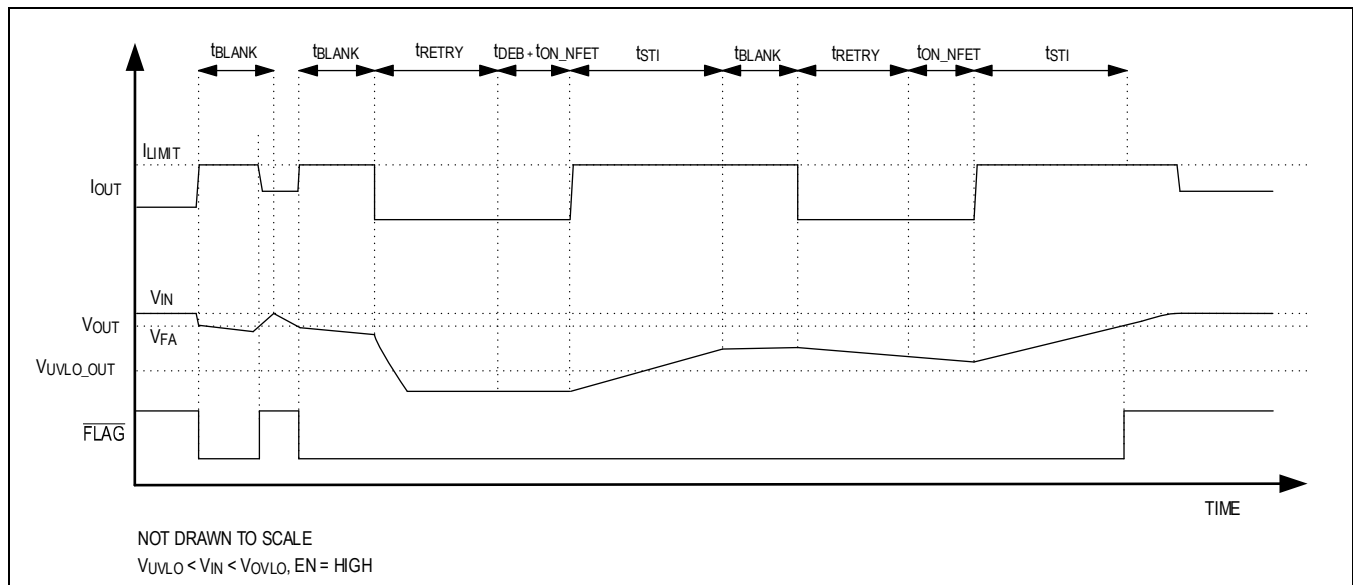
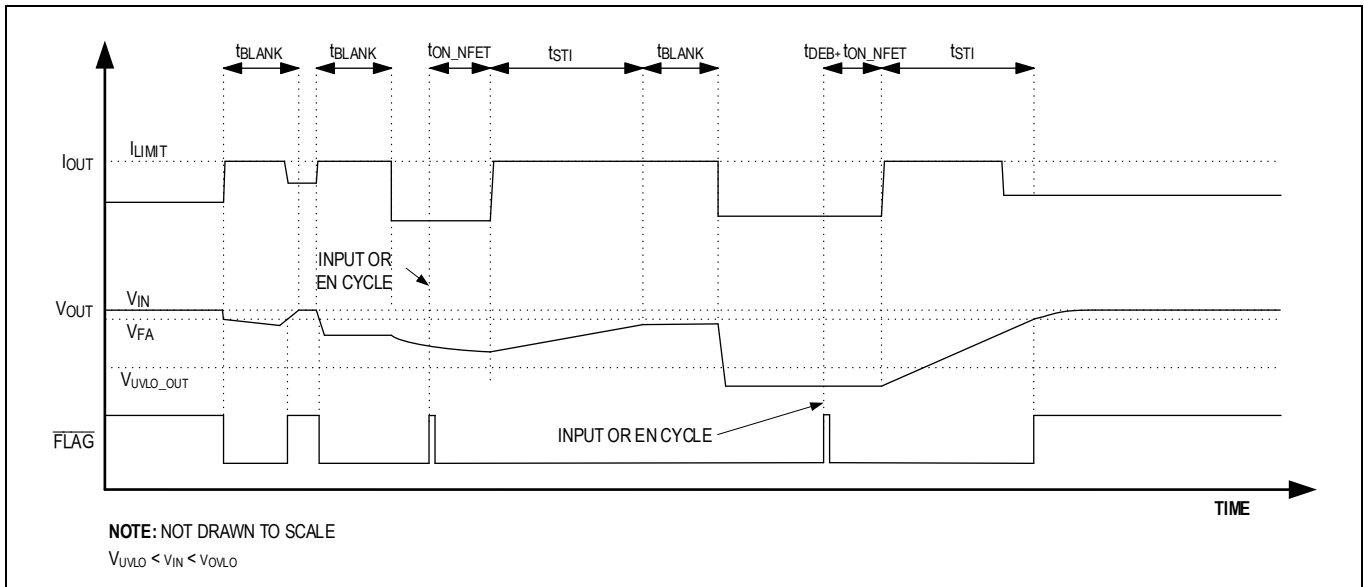

Figure 17. Fault Timing Diagram
Figure 18. Latchoff-Fault Timing Diagram
With a 24ms (typ) t_{BLANK} , 24ms (typ) t_{STI} , and 720ms (typ) t_{RETRY} , the duty cycle is 6.25% resulting in 93.75% power reduction when compared to the switch being on the entire time. Figure 17 depicts typical behavior in the autoretry current-limit mode.
In latch-off current-limit mode, when current through the device reaches the current-limit threshold, the t_{BLANK} timer begins counting. The $\overline{\text{FLAG}}$ pin asserts when the voltage drop across the internal switch rises above V_{FA} and deasserts when it falls below V_{FA} . The timer resets if the overcurrent condition disappears before t_{BLANK} has elapsed. The switch turns off and stays off if the overcurrent condition continues beyond t_{BLANK} . To reset the switch, either by holding the control logic (EN) below 0.4V for at least 30 μ s (typ) or cycle the input voltage. Figure 18 depicts typical behavior in latch-off current-limit mode.
The thermal shutdown behaves similarly to the current limit. In mode, the thermal shutdown works with the autoretry timer. When the junction temperature falls below the falling thermal shutdown threshold, the device turns on after the t_{RETRY} . In latch-off mode, the device latches off until either the input power is cycled or the EN pin is toggled. In continuous mode, the device is only turned off when the temperature is over the limit and turns back on after t_{DEB} when the temperature reaches the falling thermal-shutdown threshold. There is no blanking time for thermal protection. Figure 16, Figure 17 and Figure 18 depict typical behavior under different current limit modes.